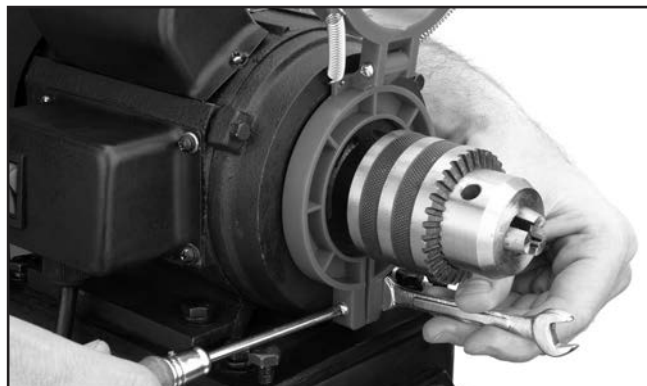

Figure 15. Installing chuck guard.
2. Install the chuck guard over the motor spindle with the springs up, and tighten the Phillips head screw and hex nut (see **Figure 15**).